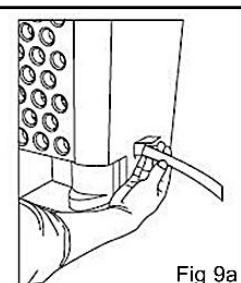

Fig 9a
- Insert the female threaded end of the hose to the Drain Hose Outlet. (Fig.9a)